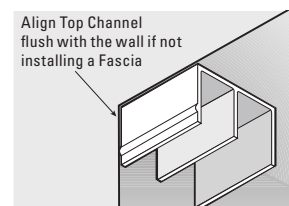

Figure 1
- When cut to proper length, install Top Channel up to the top front of closet opening making sure that the front of the Top Channel is flush with outside walls. Hold up the Top Channel in the desired position and with your pencil, mark where the pre-drilled holes are in the Top Channel (See Figure 1).